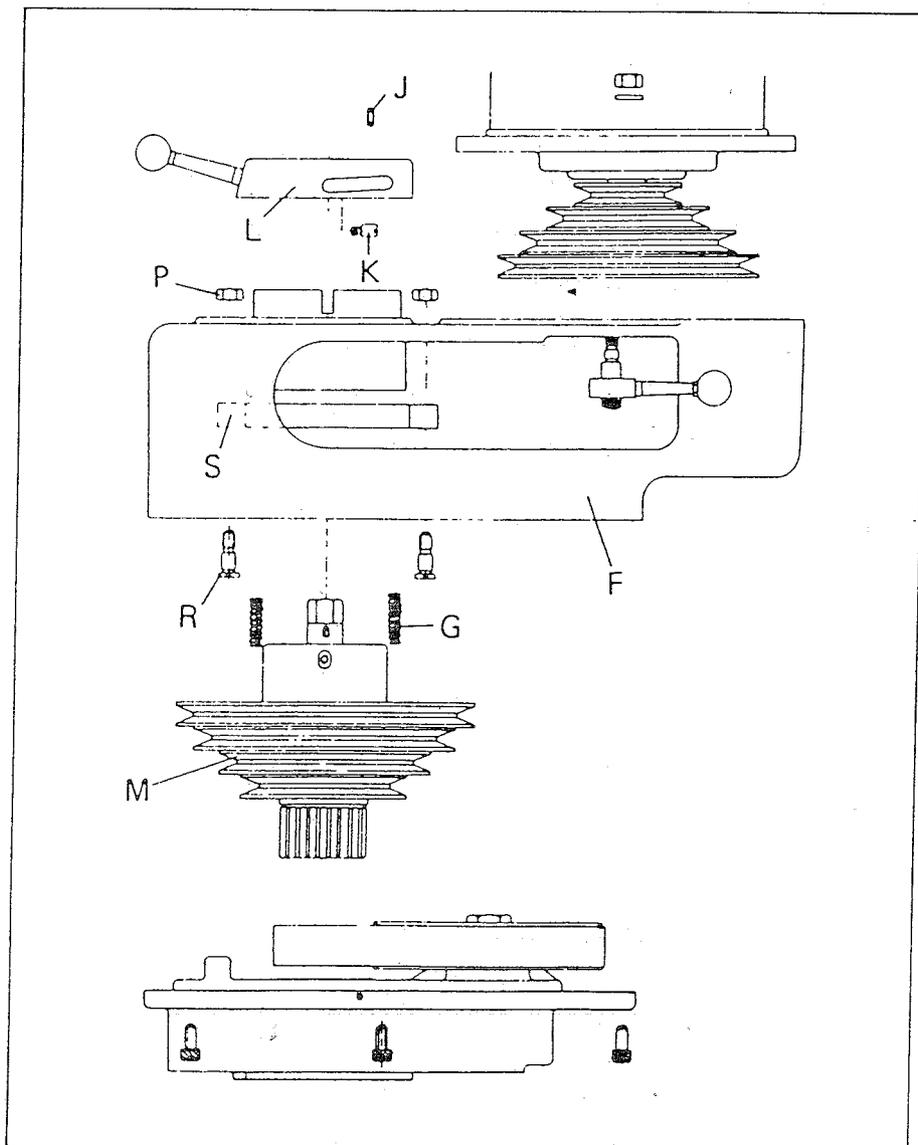

Figure 22
- a. It is the same with the replacement step a to g of V-Belt and timing belt to take out the belt housing (F).
- b. Take off two M3 setting screws (J), two convex ring screws (K) and convex ring (L). Separate the belt housing (F) and front belt pulley set (M) and take out the four pressure springs (G).
- c. Remove the nuts (P) of three brake block and take off the bolts (R) as shown in Figure 22. Then replace the brake block (S).